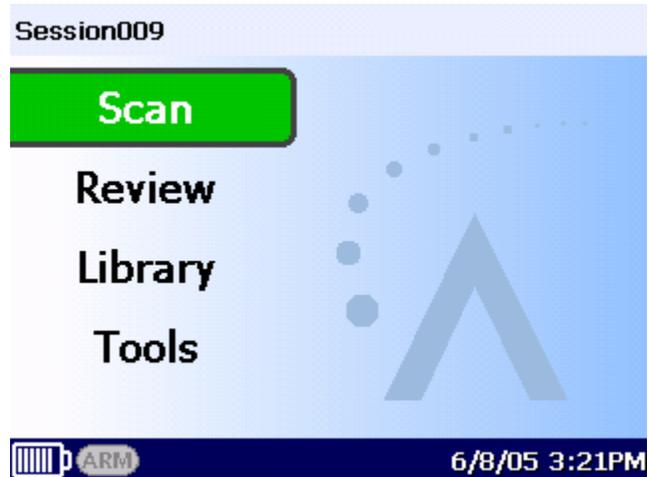

Figure 2-2: Main Screen
- b) Next, the *Main screen* will be presented (Figure 2-2). The *Plug* icon on the bottom left indicates that the unit is connected to the line voltage; if the unit is operating on battery power, a *Battery* icon is presented. The *ARM* icon is in a gray background, indicating that the unit is not armed at the present time.